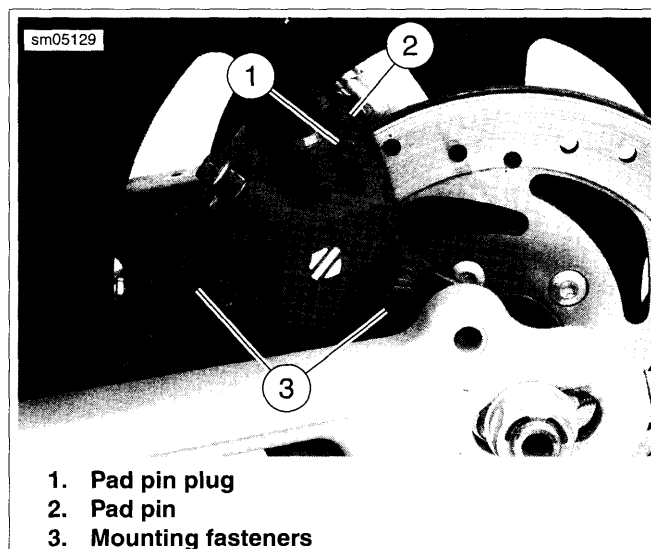

Figure 1-38. Rear Caliper Assembly
- See Figure 1-38. It is **not** required or recommended to remove or loosen the caliper mounting fasteners (3).
5. See Figure 1-38. Remove pad pin plug (1).
6. Loosen, but do not remove, brake pad pin (2) (metric).
4. See Figure 1-38. Install pad pin plug (1). Tighten to 18-25 **in-lbs** (2.0-2.9 Nm).